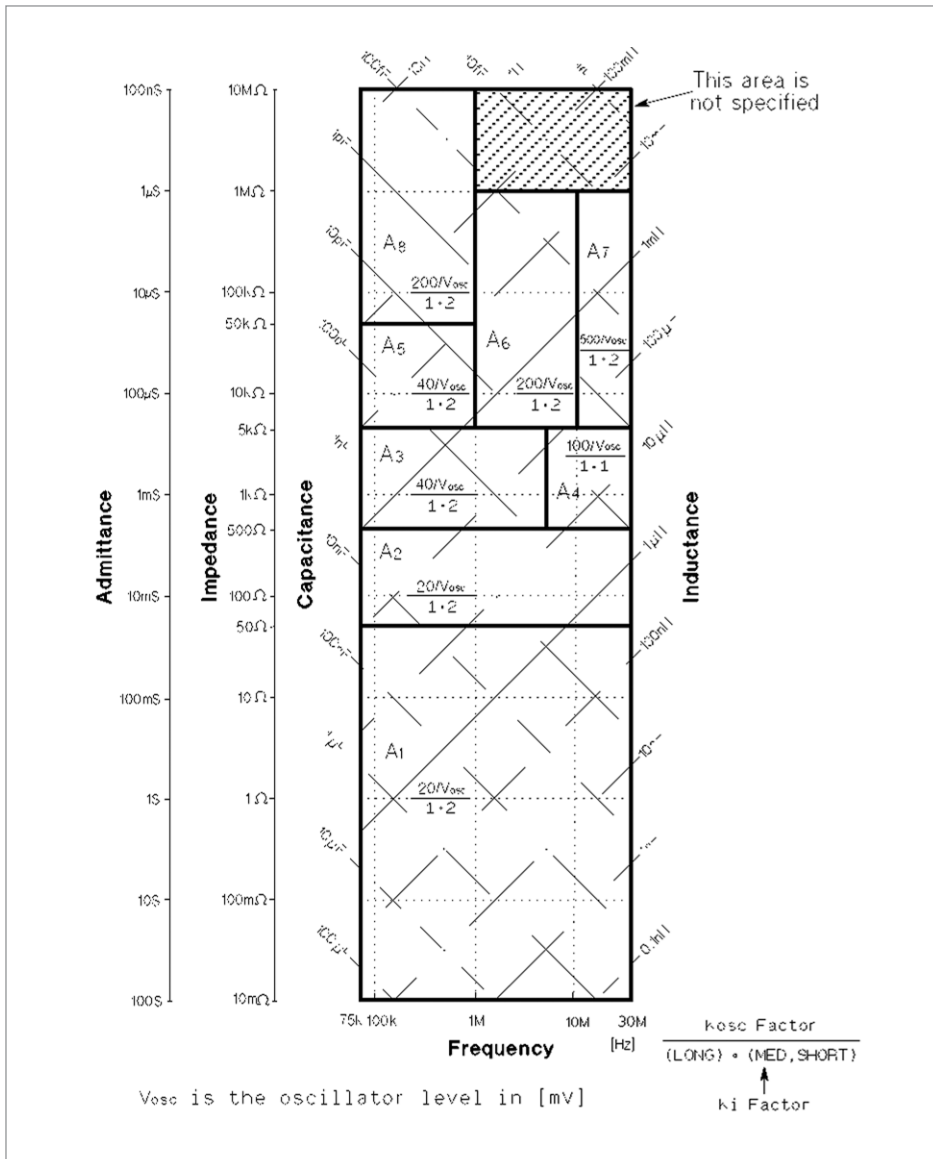
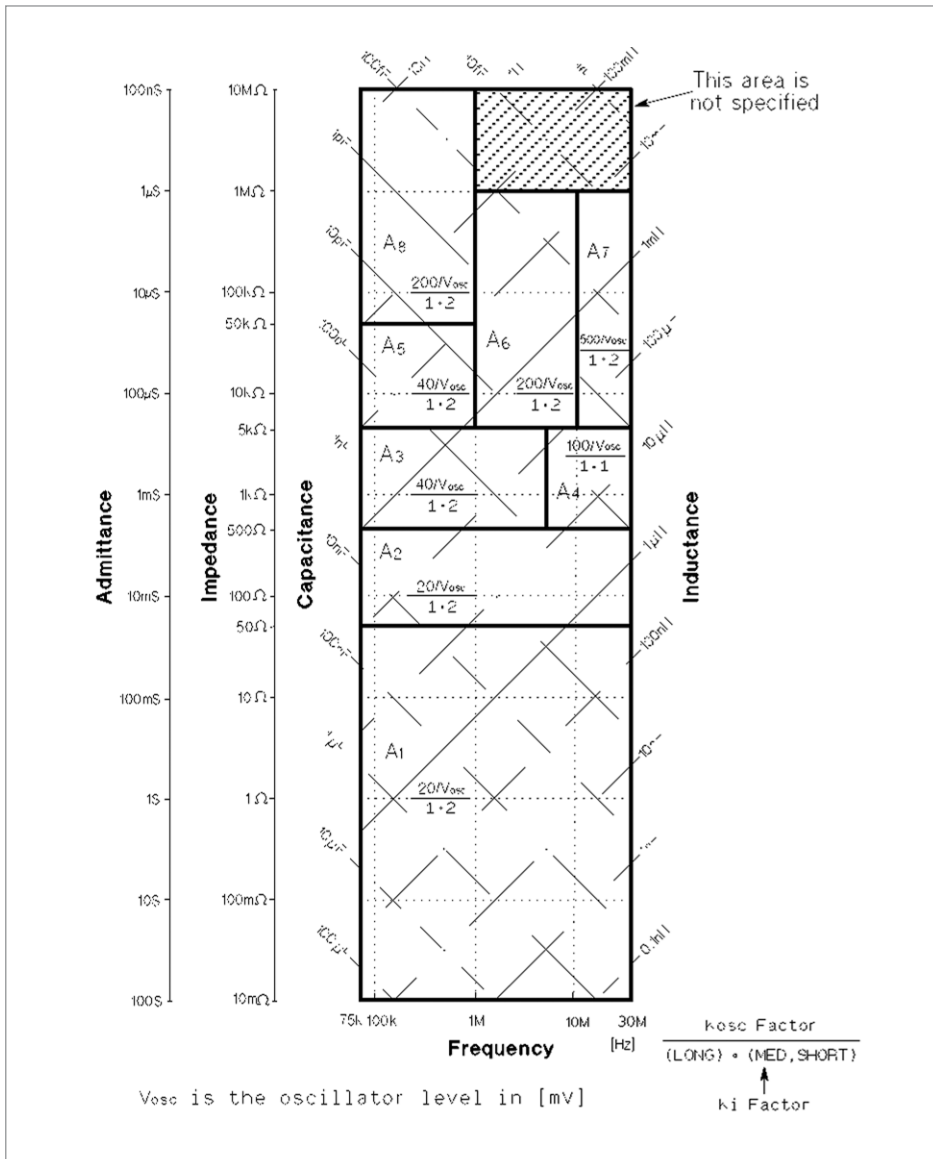

Figure 1-3. Accuracy equations,  $K_i$  factor, and  $K_{osc}$  factor (test signal level  $\leq 1 V_{rms}$ )
Figure 1-4. Accuracy equations and  $K_i$  factor (test signal level  $> 1 V_{rms}$ )
$A_n$  = Basic accuracy equation given from the  $A_1$  to  $A_{16}$  shown in Table 1-1. The applicable frequency range and impedance range of equations  $A_1$  to  $A_{16}$  are shown in Figure 1-3 and Figure 1-4. (Refer to *Basic Accuracy Equations* on page 7.)
1. Determine  $A_n$  equation from Figure 1-3 or Figure 1-4. In both charts, boundary line belongs to the better accuracy area.
When the oscillator level is  $\leq 1 V_{rms}$ , determine  $A_n$  to be applied, value of  $K_j$  and value of  $K_{osc}$  from the Figure 1-3. If the determined  $K_{osc} \leq 1$ , then round up  $K_{osc}$  to 1.
When the oscillator level is  $> 1 V_{rms}$ , determine  $A_n$  to be applied and value of  $K_j$  from the Figure 1-4.
3. Choose an accuracy chart from Figure 1-3 and Figure 1-4. The oscillator level is 1 Vrms, then Figure 1-3 is chosen for this measurement.
4. Find the frequency point of  $f_m$  (25.2 MHz) along the X axis in Figure 1-3. Both axes are in log format. Interpolation may be required.
5. Find the impedance point of  $Z_m$  (35 Ω) along the Y axis in Figure 1-3 determined in step 2. Both axes are in log format. Interpolation may be required.